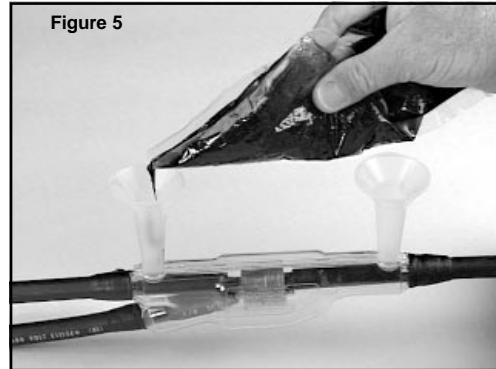

Figure 5
- 6.1 Position splice level. Mix resin thoroughly per instructions on resin package. Pour resin immediately after mixing. Fill mold through one spout until both spouts are completely filled. See Figure 5. Refill spout after air escapes.